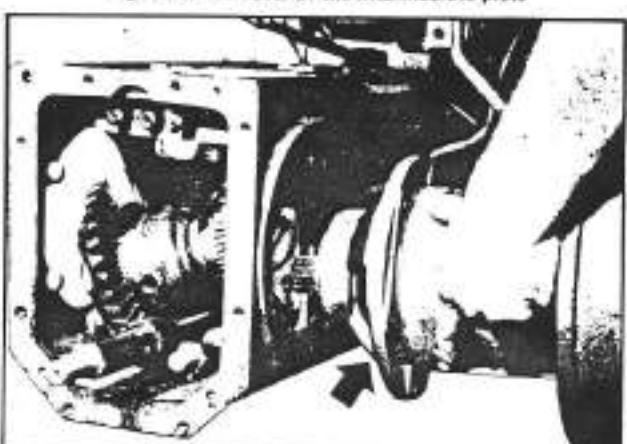

Fig. 3-24. Removal of the wheel hubs
- Take off the wheel hubs (see figure 3-24).